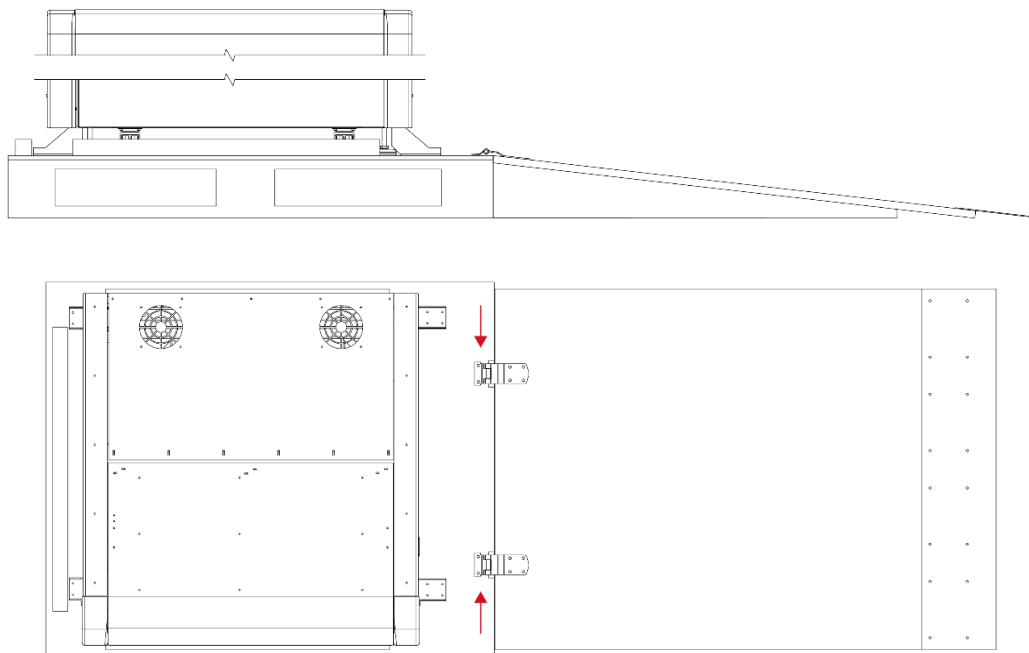

Fig. 8 Pallet ramp mounted
7. Fasten the ramp to the pallet by sliding the two pins into the positions indicated in Fig. 8 and lock them with a retaining clip attached to the pins.